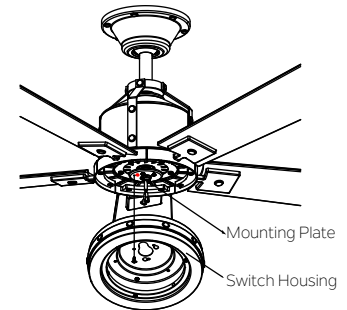

Fig. 19
Step 1. Remove the screw marked with a dot label which preinstalled on mounting plate and Keep for later use. Loosen the other two (do not remove). Place the two slot holes on the switch housing over the 2 screws previously loosened from the mounting plate. Rotate the switch housing until it locks in place at the narrow end of the key holes. Securely by tightening the 2 screws previously loosened and the one previously removed. (Fig. 19)